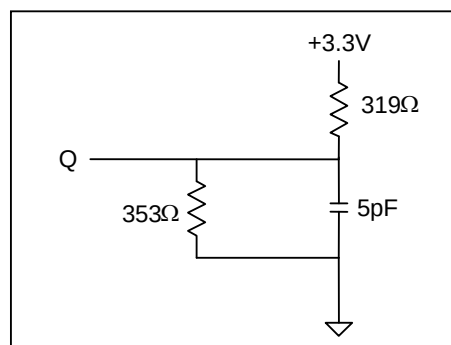

Figure 2
3. The load used for VOH, VOL testing is shown in Figure 2. AC load current is higher than the shown DC values. AC I/O curves are available upon request.
2. Output loading is specified with $C_1=5\text{pF}$ as in Figure 2.